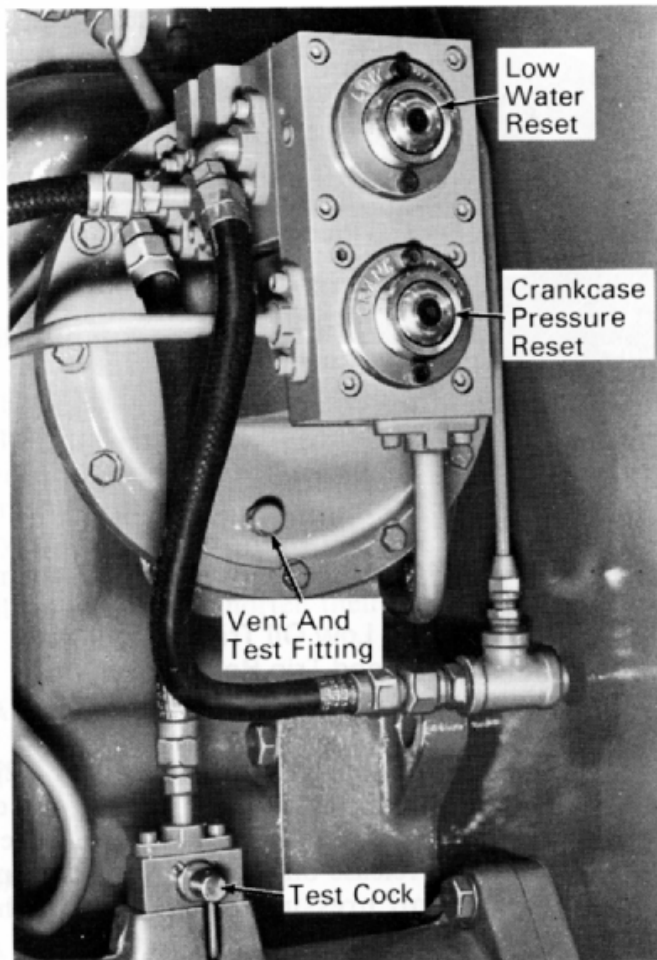

Fig.2-27 - Low Water And Crankcase Pressure Detector
15. Low Water And Crankcase Pressure Detector (Fig. 2-27) 77AC
The locomotive is also equipped with devices, Fig. 2-27, which will detect hot engine oil, low cooling water pressure, and excessive crankcase pressure. When activated, the devices release oil pressure from the line leading to the low oil pressure mechanism in the governor, causing engine shutdown.